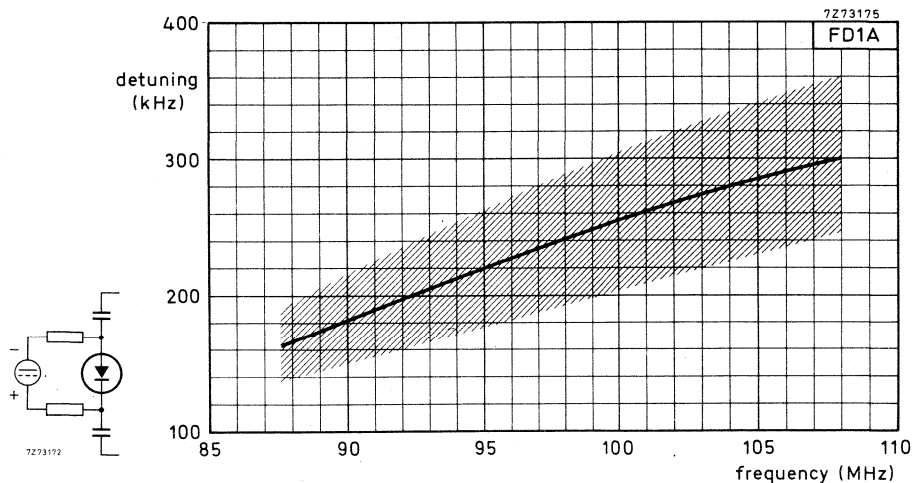

Fig. 6. Detuning as a function of signal frequency at a control voltage change from 0 to +400 mV.
A. F. C. sensitivity (only for FD1A)	see Figs. 6 and 7